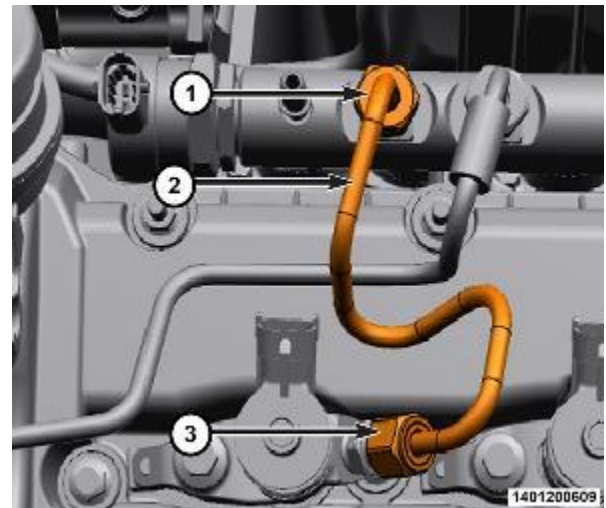

Figure 181 – No. 4 Fuel Tube
16. Unscrew the union nuts (1 & 3) and remove cylinder No. 4 fuel tube (2) and discard the fuel tube (Figure 181).